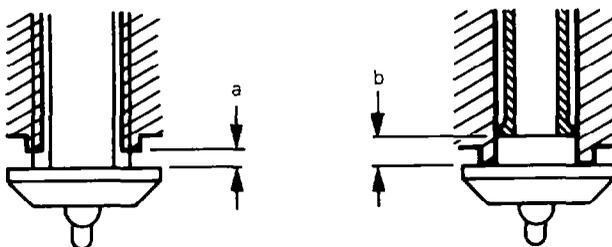

Figure 102 Engine Brake Valve — Stroke
- b. Mechanically check that the inlet stroke of the valve $a = 2.5 \text{ mm} \pm 0.9 \text{ mm}$ and the outlet stroke $b = 2.0 \text{ mm} \pm 0.5 \text{ mm}$ (see Fig 102).